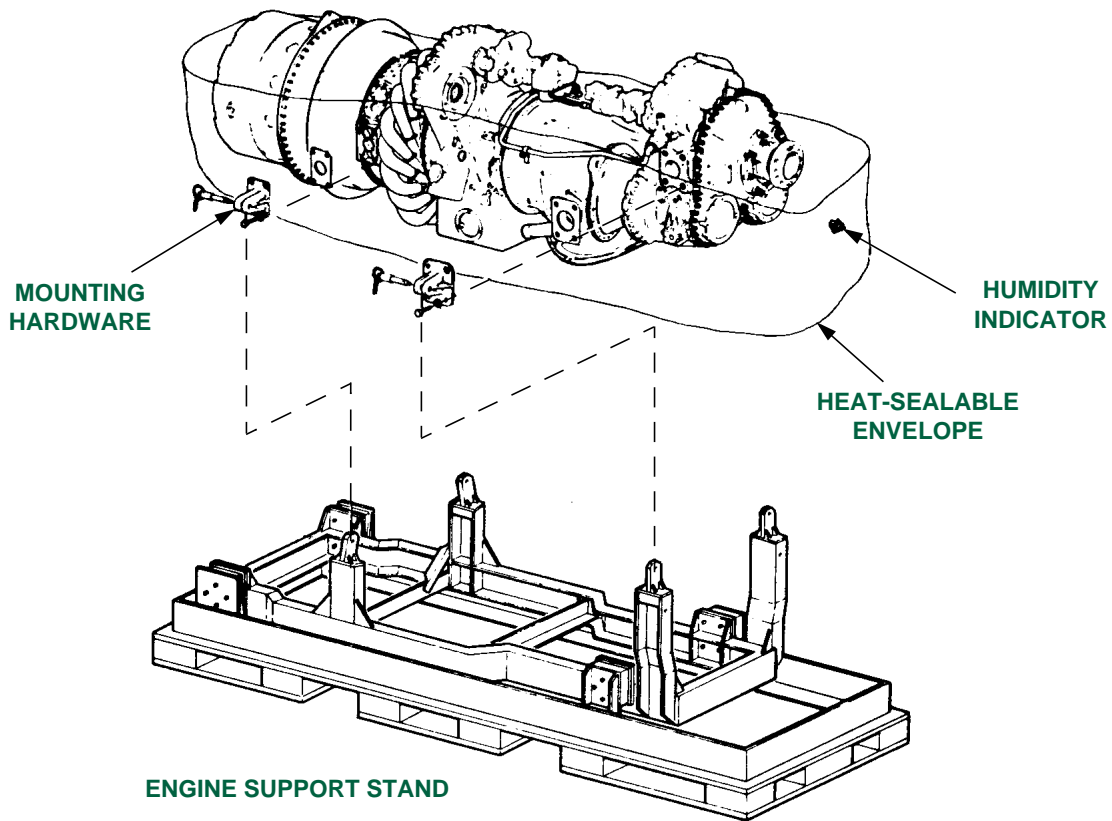

FIGURE 1 - ENGINE MOUNTED ON SUPPORT STAND
- Step 2. Enclose the lower half of the engine in a heat-sealable envelope. Bolt the engine to the mounting brackets and to the engine support stand (see Figure 1).